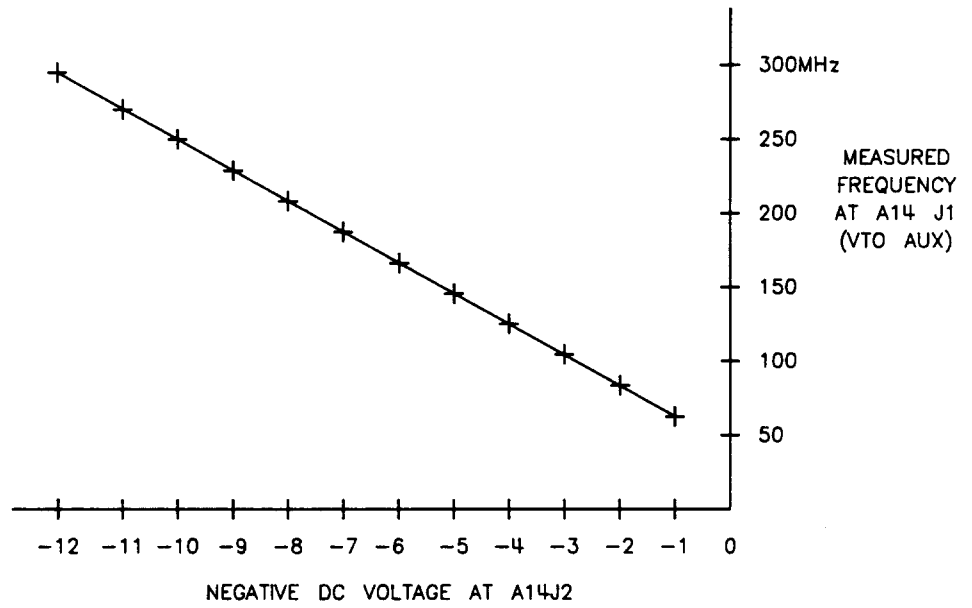

Figure 5-2 VTO Voltage-to-Frequency Relationship
2. Monitor A14J1 to verify that the VTO steps through its range of 65 MHz to 300 MHz (about -21.3 MHz/volt). Figure 5-2 illustrates the relationship of voltage at A14J2 to VTO oscillation frequency.